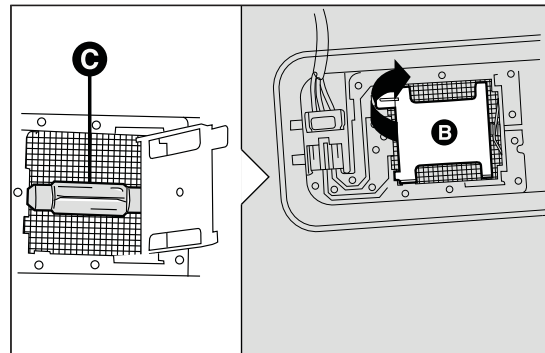

fig. 160
- ☐ open the lid B fig. 160 as shown;
- ☐ remove bulb C fig. 160 by releasing it from the side contacts, then insert the new bulb and make sure it is correctly clamped between these contacts;